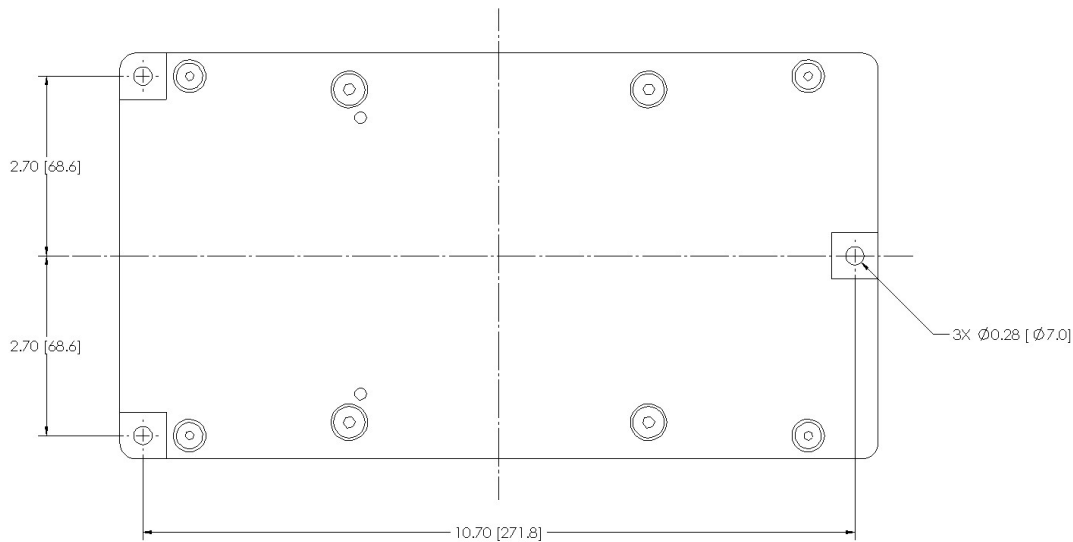

Figure 5: AFD70-3 Mounting Bracket hole locations
The *AFD70-3* is designed for mounting on a stationary fixture. It has (3) three 0.28" (7.0 mm) mounting holes spaced as shown in Figure 5. The *AFD70-3* Table Top Mounting Bracket should not be modified without first consulting *PushCorp, Inc.*